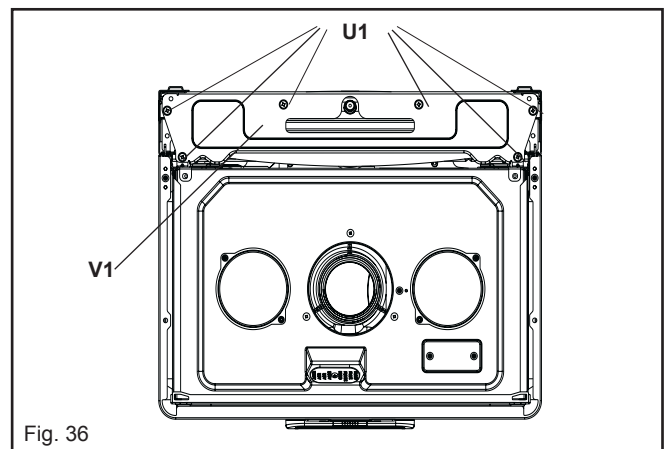

Fig. 36
Carry out component removal procedure as described in 6.3. Unclip and remove the air chamber front and the RH side covers. Slacken the gas pipe (**A1**) at the air box connection and swing/rotate of the fan assembly. Locate and remove the 3 internal nuts (**F1**) which secure the fan assembly in position to the heat exchanger (**G1**). Disconnect the electrode leads and ancillary wiring from their respective connectors. Remove the retaining screws (fig. 36) for sensing electrode and remove. Gently ease the fan assembly out of its location. Ensure the seal is in good condition, taking care to ensure it is replaced correctly. Replace in the reverse order.
Carry out component removal procedure as described in 6.3. Unclip and remove the three air chamber covers (front, LH, RH sides). Disconnect all the wiring connections. Fig. 36: Slacken the gas pipe (L1) at the air box connection and swing/rotate of the fan assembly. Disconnect the flow (M1) and condense connections on the heat exchanger. Remove fan and mixer as described in 6.13. Locate and remove the 2-screws that secure the heat exchanger retaining clips and remove clips (O1). Pull the heat exchanger forward and disconnect it from the flue collector (P1). The heat exchanger can now be withdrawn from the appliance.
6.17.1 EXPANSION VESSEL REMOVAL (with sufficient clearance above, fig. 36)